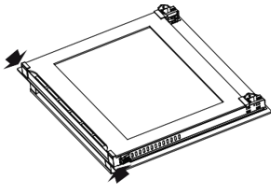

Figure 3
- Fully open the door and press the plastic latches on each side of the door (Figure 3).